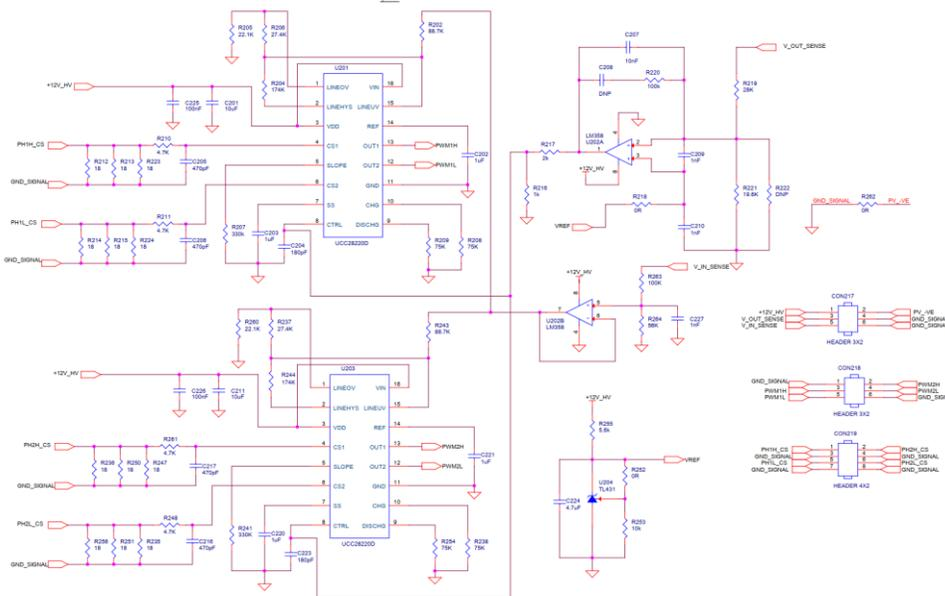
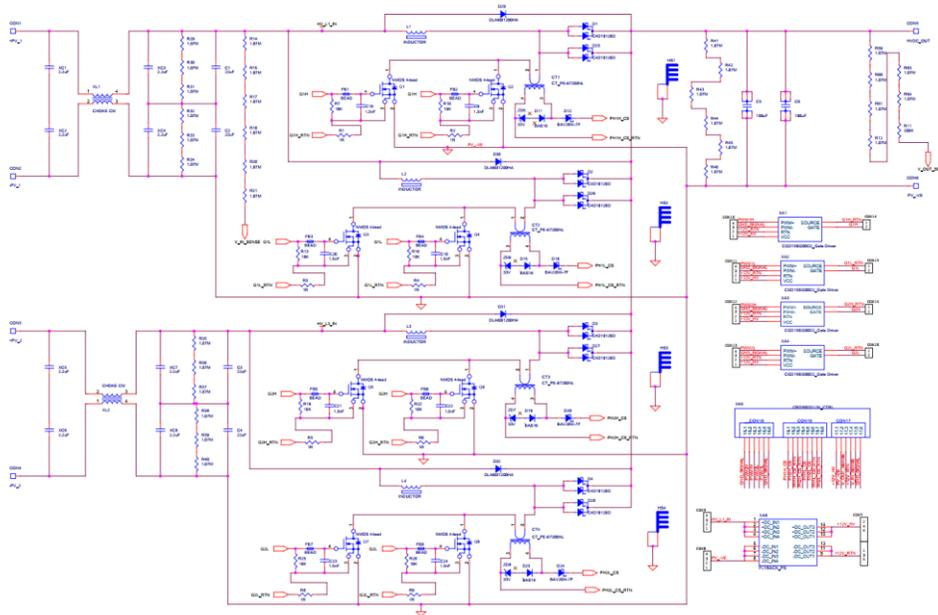

Figure 7: Boost control board schematic
Figure 8: Boost power board schematic
Wolfspeed's CRD-60DD12N, 60 kW interleaved boost converter printed circuit board (PCB) has been divided into two sections: one is the boost control board (schematic as shown in Figure 7), and the other is the boost power board (schematic shown in Figure 8). Two of the Texas Instrument's UCC2822 interleaved dual pulse width
modulation (PWM) controllers have been used on the boost control board. Each controller integrated circuit (IC) provides PWM switching signals to the two of the interleaved boost stages of Wolfspeed's CRD-60DD12N, 60 kW Interleaved Boost Converter (as shown in Figure 7). The boost power board mainly consists of power switching devices, passive elements (including boost inductor and capacitor), and voltage/current sensing circuitry. There are three pin header connectors (CON217, CON218, CON219) that plug the boost control board into the boost power board (as shown in Figure 8).